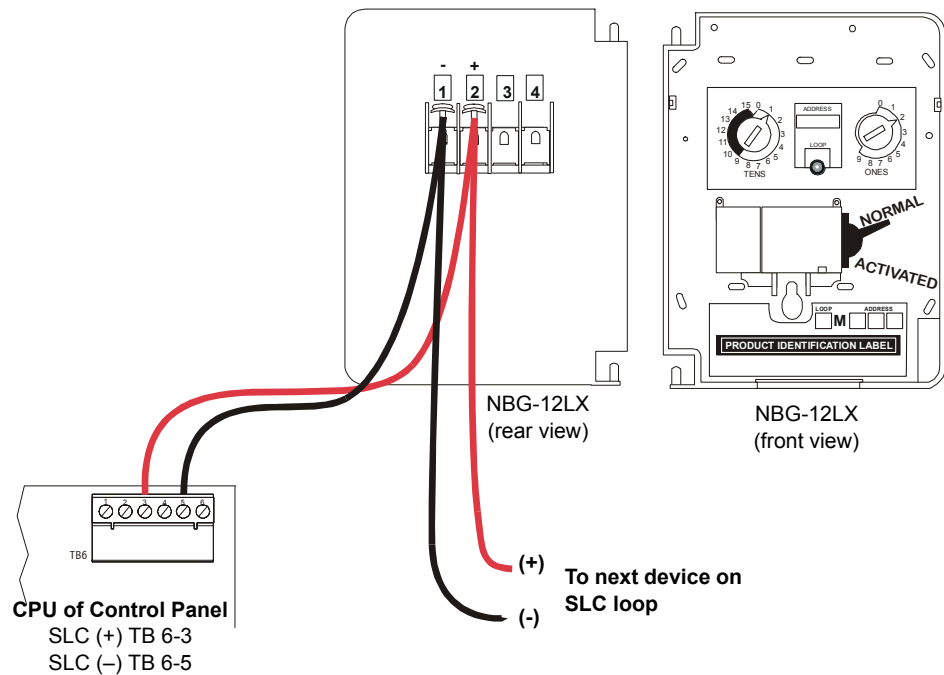

Figure 43 Typical SLC Wiring of an NBG-12LX Pull Station
The NBG-12LX is an addressable manual pull station with a key-lock reset feature. Figure 43 shows typical wiring and provides instructions for setting the SLC address.
2. Connect the NBG-12LX to the CPU as shown in Figure 43.
3. Set the SLC address of the pull station. Rotary switches are located on the interior of the pull station, as shown in Figure 43. The address is set the same way as for control, monitor & relay modules (refer to “Setting an SLC Address for a Module” on page 44). Factory preset is address 00. Record the device address and SLC number on the label inside the pull station.